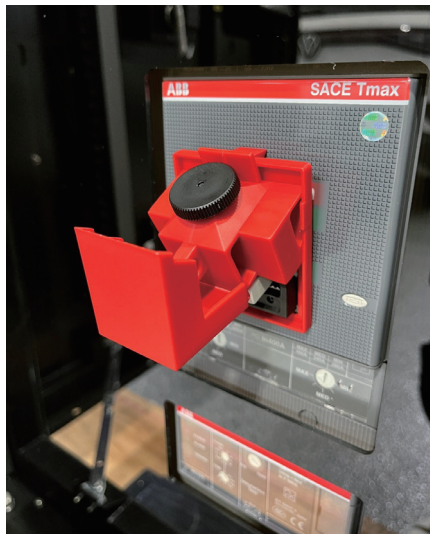

Figure 27. Lock Flap Open
3) Open the flap to locate the knob. See Figure 27.